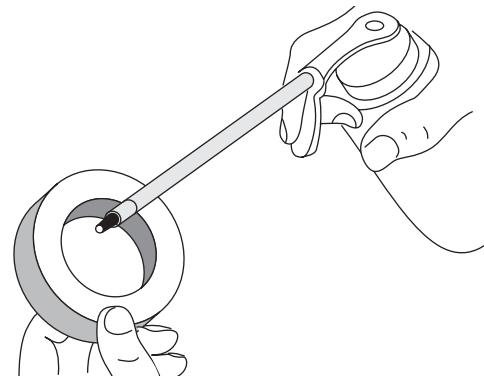

Fig. 24
4. Apply enough clean oil to lightly coat the filter (Fig. 24).